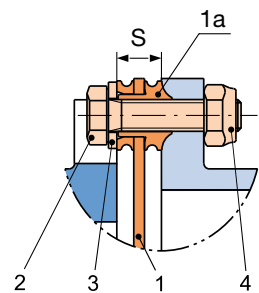

Fig. 98 Detail „X“
- Screw the disk packs (1, Bild 98) over lightly-oiled hexagon head screws (2), washers (3) and hexagon nuts (4) alternately with the sleeve and the hubs.
- Producing the pre-tension force on the disk pack (1) usually takes place* via the hexagon nut (4). Please avoid twisting the disk pack (1) (secure screw (2) against turning).
- The hexagon nuts (4) or hexagon head screws (2) must be tightened crosswise and in several sequences to the full tightening torque M_a . For the appropriate tightening torques for each sequence, please see the appropriate Installation and Operational Instructions.
The radius of the collar bushings (Part 1a, Fig. 98, Detail “X”) must lie in the hub and sleeve grooves.